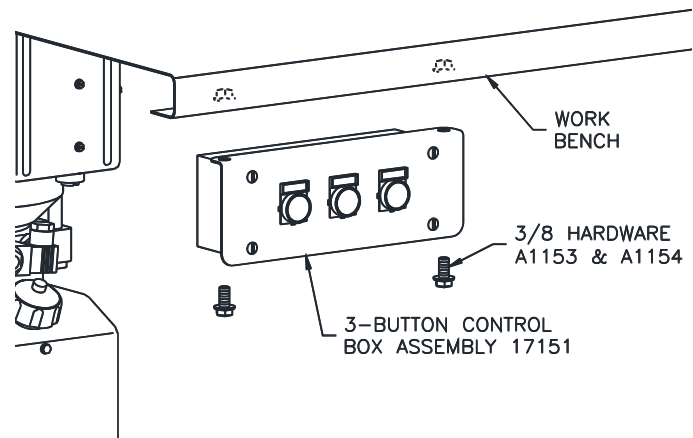

Fig 12 – Control Box Assembly Mounting
19. Mount the 3-Button Control Box Assembly to the leading edge of the workbench using the two 3/8 x 3/4" Lg. flanged bolts and nuts provided or suited hardware, **Fig 12**.